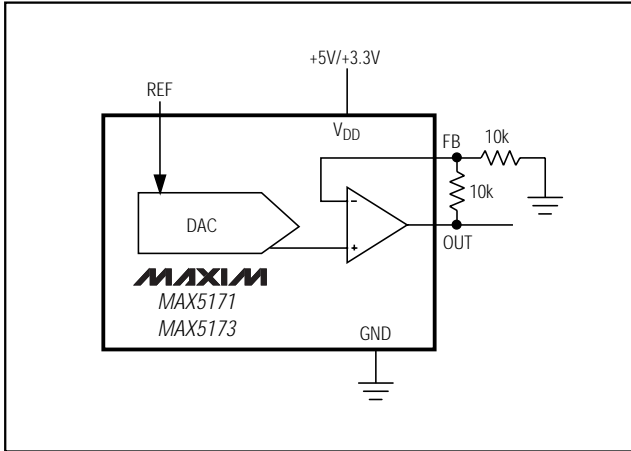

Figure 6. Unipolar Output Circuit (Rail-to-Rail)
Figure 6 shows the MAX5171/MAX5173 configured for unipolar, rail-to-rail operation with a gain of  $+2\text{V/V}$ . Table 2 lists the codes for unipolar output voltages. The output voltage is limited to  $\text{VDD}$ .
**Table 2. Unipolar Code Table (Circuit of Figure 6)**